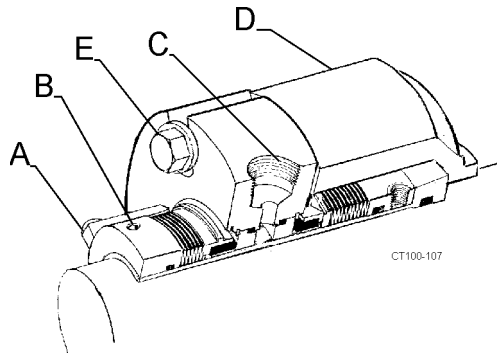

Figure 62 - Typical Cartridge Seal
NOTE: Be sure the flushing ports in the cartridge seal are positioned with the inlet toward the bottom and the outlet toward the top. (Figure 62, item C).
14. Hold the backplate in place and tighten the cartridge seal into the cartridge adapter by tightening the cap screws (Figure 62, item E).
Table 15: Call Outs For Figure 62
- 16. Tighten the two set screws to the shaft. (Figure 62, item B).
- 17. Remove the lugs/spacers. (Figure 62, item A). **NOTE:** Keep lugs/spacers to reinstall on seal cartridge if removal is ever required.